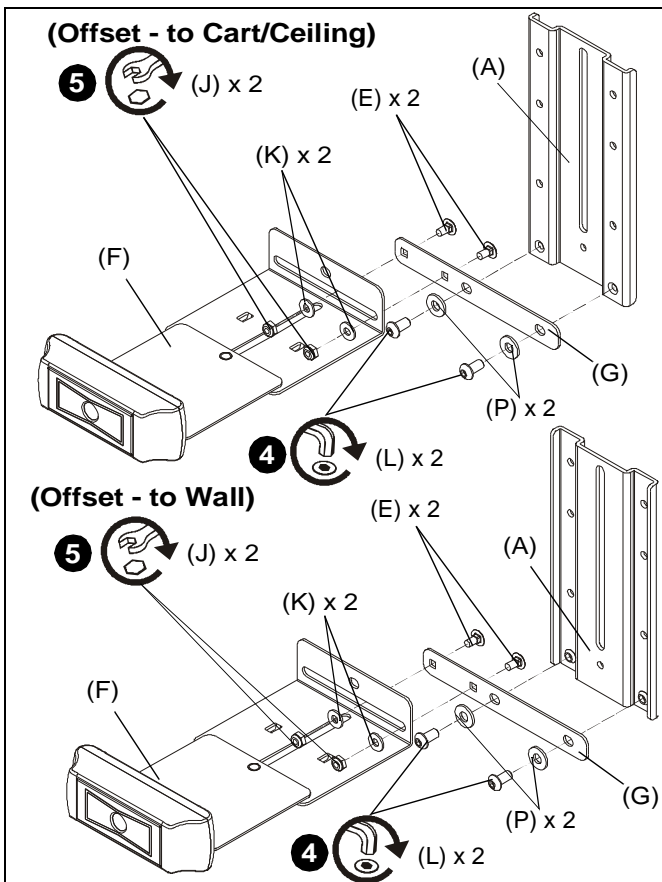

Figure 20
**NOTE:** If camera must be offset to one side or the other, attach camera mount (F) to upright bracket (A) as shown in Steps 4 and 5.
4. **(Offset)** Use two 1/4-20 x 1/2" button head cap screws (L) and two large washers (P) to secure horizontal bracket (G) to upright bracket (A). (See Figure 20)
5. **(Offset)** Use two #10-24 lock nuts (J), two small washers (K) and two round head carriage bolts (E) to secure camera mount (F) to horizontal bracket (G). (See Figure 20)